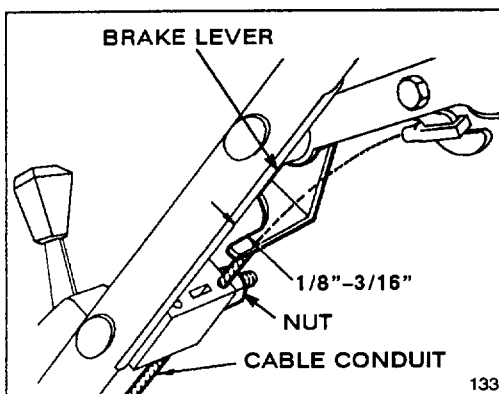

Figure 24
2. CHECK ADJUSTMENT (Fig. 24)—Move control bar toward handle until slack in wire is removed. Gap between brake lever and handle must be 1/8"–3/16". See step 3 for adjustment.
3. **ADJUST CABLE CONDUIT**—Loosen nut on cable bracket (Fig. 24). Insert 1/8"–3/16" object between brake lever and handle and pull down on cable conduit until slack is removed. Then tighten nut.